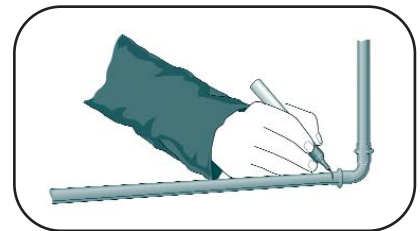

Figure 3
3. Mark the tube insertion depth with a marker pen so that full insertion depth is ensured on assembly. (Figure 3)